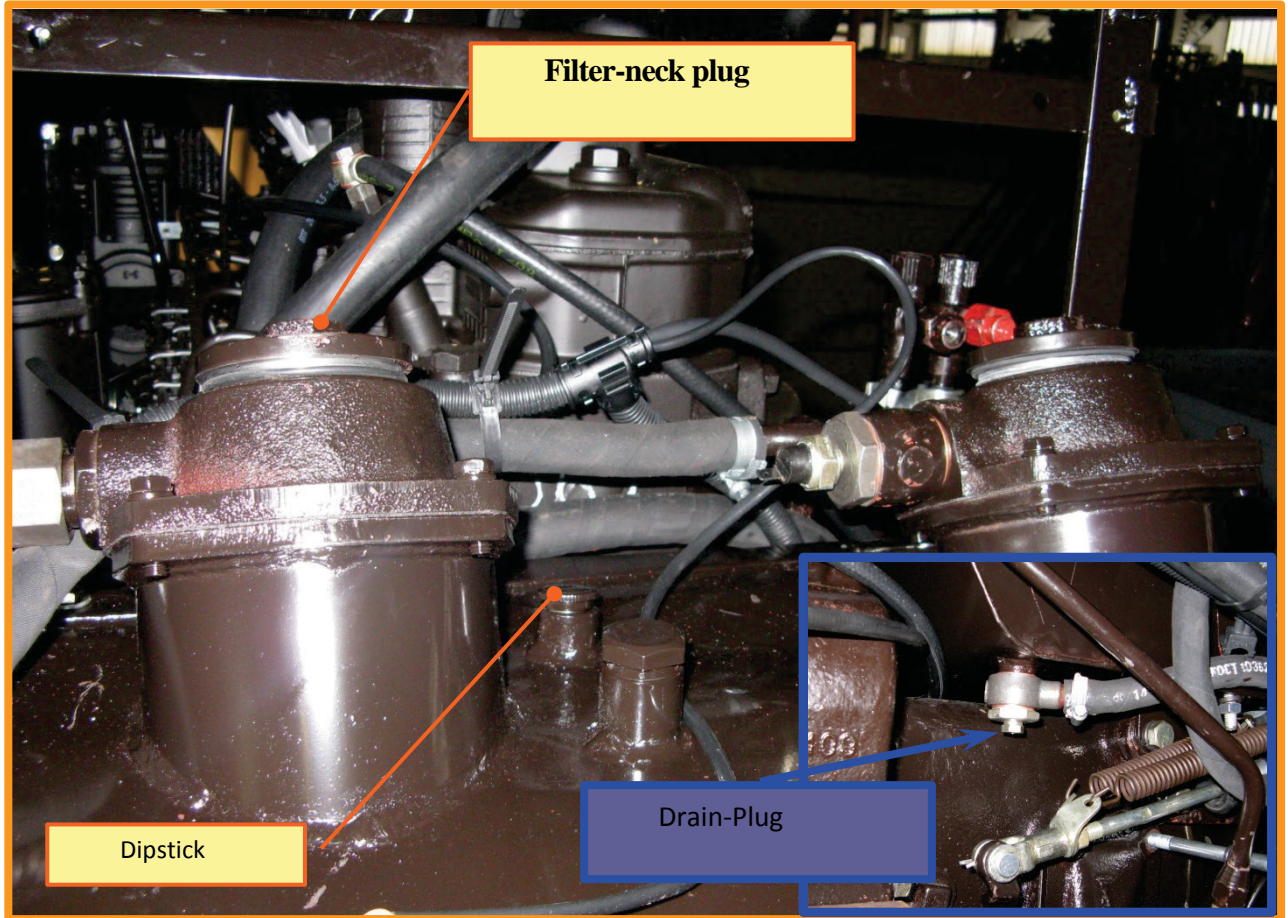

Figure 8.45
**Procedure 40. Changing Oil in Oil Tank of the RHL Hydraulic System (fig. 8.45)**